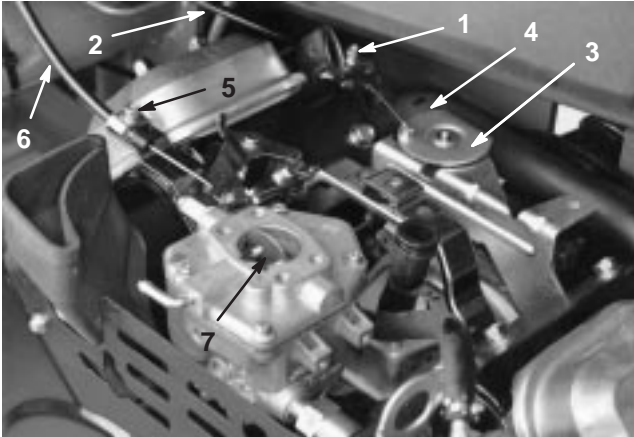

Figure 37
1. Loosen the cable clamp screw securing the cable to the engine (Fig. 37).
3. Pull firmly on the throttle cable until the back of the swivel contacts the stop (Fig. 37).
3. Pull firmly on the choke cable until the choke butterfly is completely closed, then tighten the cable clamp screw (Fig. 37).